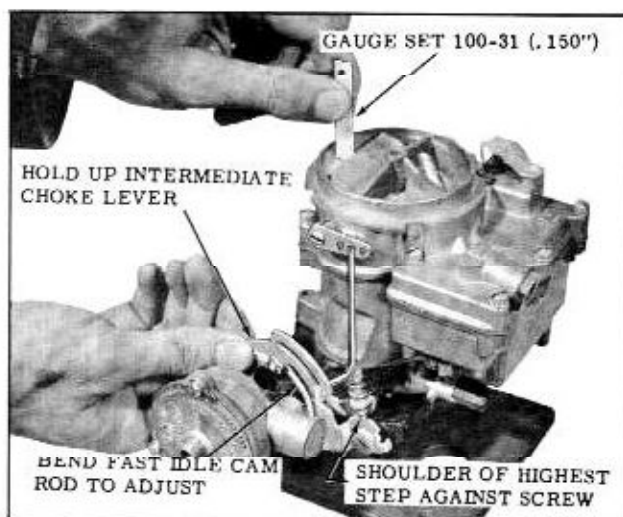

Fig. 8-149 Fast Idle Cam Rod Adjustment
2. While holding up on the intermediate choke lever so that the shoulder of the highest step of the fast idle cam is against the fast idle speed screw. Check the clearance between top edge of the choke valve and the air horn at the rear edge, using Gauge Set 100-31 (.150"). Make sure the intermediate choke rod is at the bottom of its slot in the intermediate lever. (Fig. 8-149)